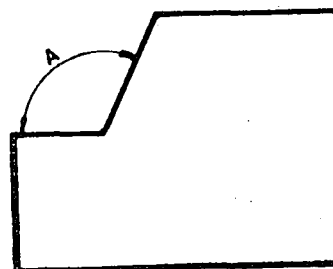

Fig. 7
3. When the angle is obtuse and one side is parallel to the horizontal plane (Fig. 7), the angle of the tool head will be $A - 90^\circ$.